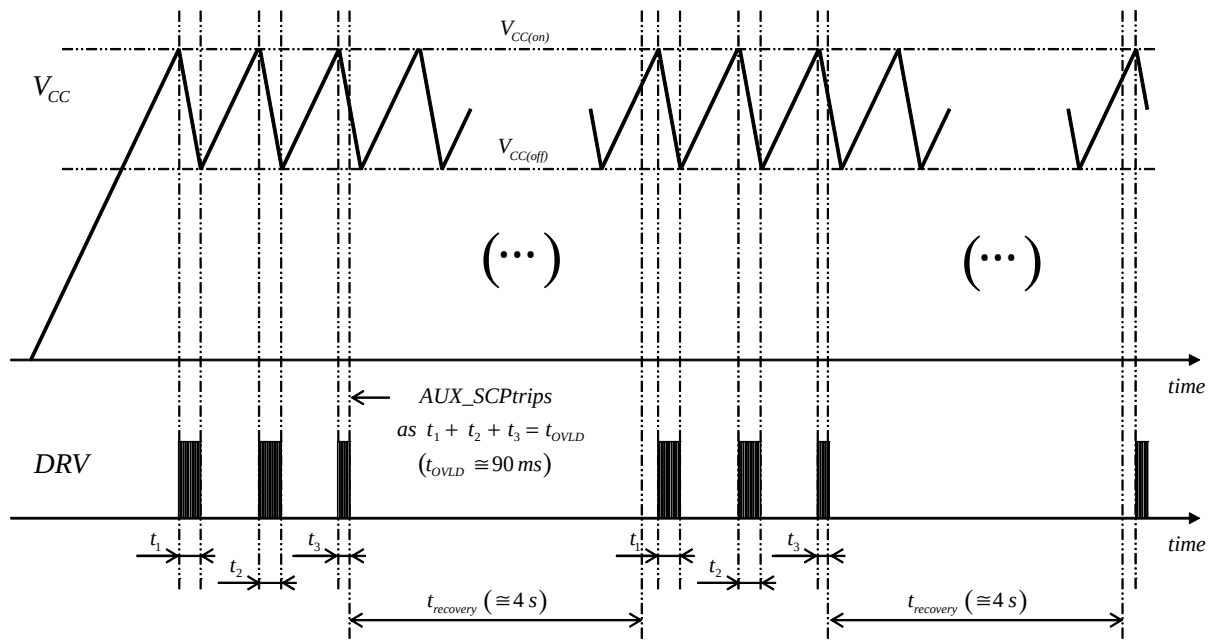

Figure 59. Start-up Sequence in a Load Short-circuit Situation (auto-recovery version)
- If the load is shorted, the circuit will operate in hiccup mode with V_{CC} oscillating between $V_{CC(off)}$ and $V_{CC(on)}$ until the AUX_SCP protection trips (AUX_SCP is triggered if the ZCD pin voltage does not exceed 1 V within a 90-ms operation period of time thus indicating a short to ground of the ZCD pin or an excessive load preventing the output voltage from rising). The NCL30085A latches off in this case. With the B version, the AUX_SCP protection forces the 4-s auto-recovery delay to reduce the operation duty-ratio. Figure 59 illustrates a start-up sequence with the output shorted to ground, in this second case.